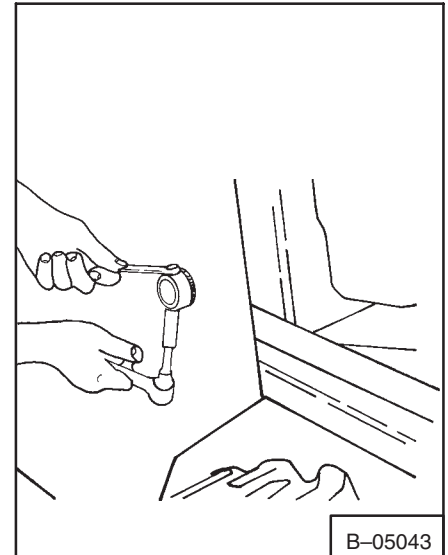

Fig. 2-122 Installing Bolt and Locknut
6. Install the bolt and locknut in the pin in the base end of the cylinder (Fig. 2-122).